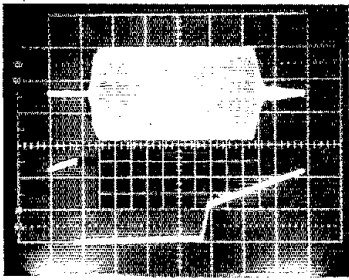
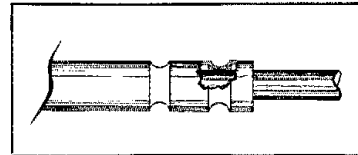

Fig 2—CW keying waveform for the IC-275A. The upper trace is the RF output; the lower trace is the actual key closure. Each horizontal division is 5 ms.
Fig 3—Use the new roller to groove the larger tube of a slip joint. This reduces the tube's inner diameter slightly to provide a snug fit with a smaller tube.
See Fig 2.
clicks while listening to a second receiver located in the shack. See Fig 2. If you're serious about CW operation, you'll want the optional 500-Hz filter. An 800-Hz sidetone-monitor level control is located on the rear panel, but there is no pitch control.
Packet operation with the IC-275A is a snap. There is no need to disconnect your microphone when you want to operate packet—there are connections for audio IN and OUT for your TNC on the rear panel. The DATA switch mutes the microphone input. Using the DATA feature and FM mode, we measured receiver recovery (turnaround) times of 13 ms—quick enough for efficient packet operation. Fig 3 shows that the carrier has a remarkably quick fall time ($45 \mu\text{s}$) in the FM mode using the DATA feature. This quick fall time as the PTT is released causes a click that could cause interference to nearby stations.
Fig 3—Photograph of the transmitted waveform of the IC-275A in the FM mode using the DATA feature. The upper trace is the RF output; the lower trace is the PTT line closure. Each horizontal division is 5 ms. The rise time is about 300 μ s, and the fall time is about 45 μ s.
First, remove the cutting blade from a pipe cutter that is large enough to cut the tube you wish to form. Purchase or fabricate a new steel roller (Fig 2). The new blade rolls a groove (Fig 3) in the pipe or tubing instead of cutting it. Install the new roller in the pipe cutter.
Fig 2—The original cutting roller (A) and a new forming roller (B) used to work tubing for a snug fit. (The exact shape of the new roller is not important. It should be ground from solid steel and have the same hub width and outer diameter as the cutting roller it replaces.)